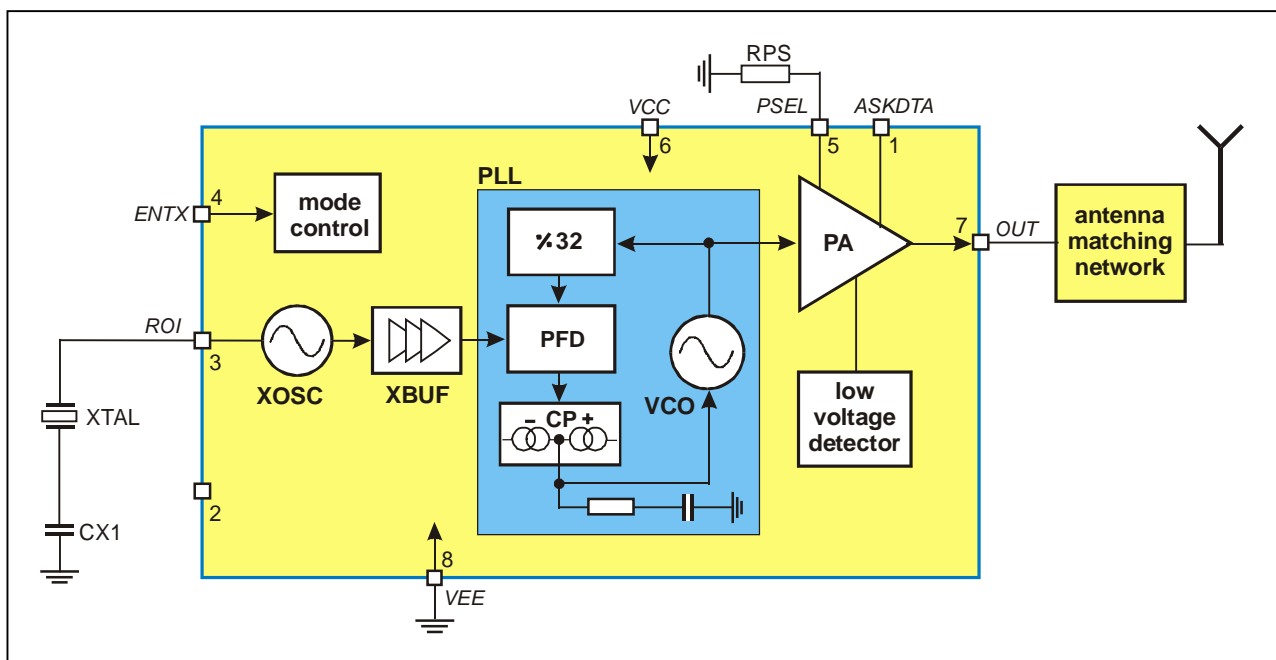

Fig. 1: Block diagram with external components
As depicted in Fig.1, the TH72012 transmitter consists of a fully integrated voltage-controlled oscillator (VCO), a divide-by-32 divider (div32), a phase-frequency detector (PFD) and a charge pump (CP). An internal loop filter determines the dynamic behavior of the PLL and suppresses reference spurious signals. A Colpitts crystal oscillator (XOSC) is used as the reference oscillator of a phase-locked loop (PLL) synthesizer. The VCO's output signal feeds the power amplifier (PA). The RF signal power P_{out} can be adjusted in four steps from $P_{out} = -11$ dBm to $+10$ dBm, either by changing the value of resistor RPS or by varying the voltage V_{PS} at pin PSEL. The open-collector output (OUT) can be used either to directly drive a loop antenna or to be matched to a 50Ohm load. Bandgap biasing ensures stable operation of the IC at a power supply range of 1.95 V to 5.5 V.